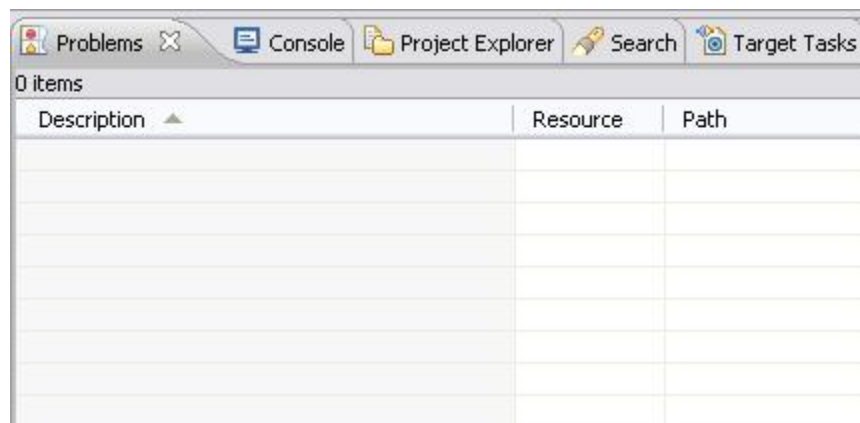

Figure 19. Problems tab with 0 errors
4. Validate that the Problems tab has no errors listed to ensure a successful compilation. Figure 19 shows a Problems tab with 0 error or warnings.